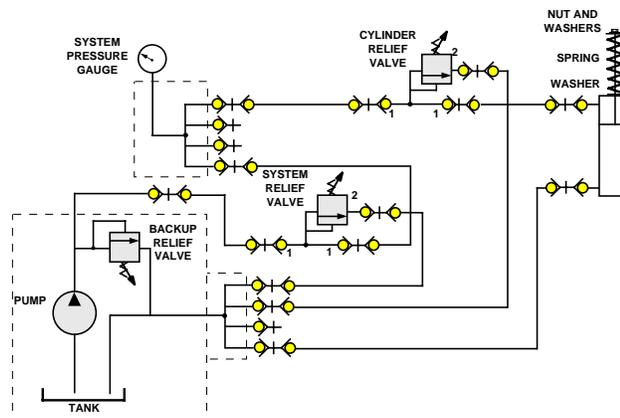

Fig. 3.7.9
1. Build the circuit shown in Figure 3.7.9.
9. Connect the cylinder hoses as shown in Figure 3.7.9.